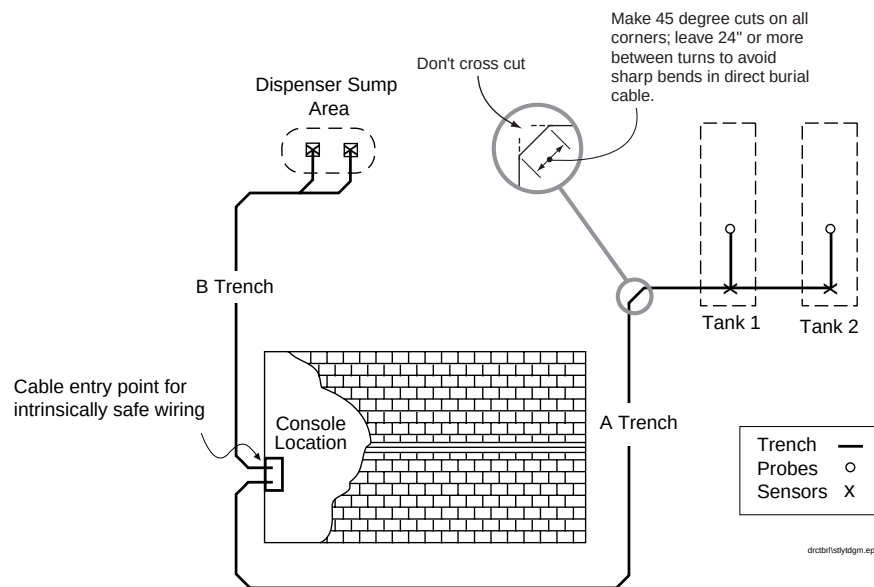

Figure 1. Site Layout Diagram, Top View
2. Use a layout diagram to determine the number and length of the saw cuts. Figure 1 shows a typical layout including trench lengths